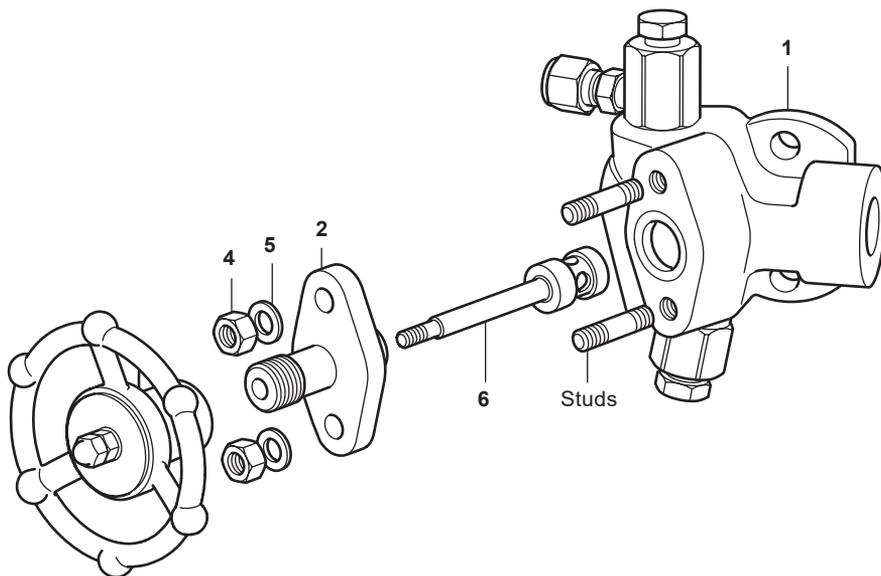

Fig. 6
4.6 Reassembling the valve - See Figure 6:
- Take the piston valve sub assembly (6), lightly insert it into the pipeline connector body (1) apply an even downwards force using the bonnet assembly (2) over the studs.
- Fit the Belleville washers (5) and nuts (4) and evenly tighten the bonnet assembly (2) down to a torque of 12 Nm (8.9 lbf ft).